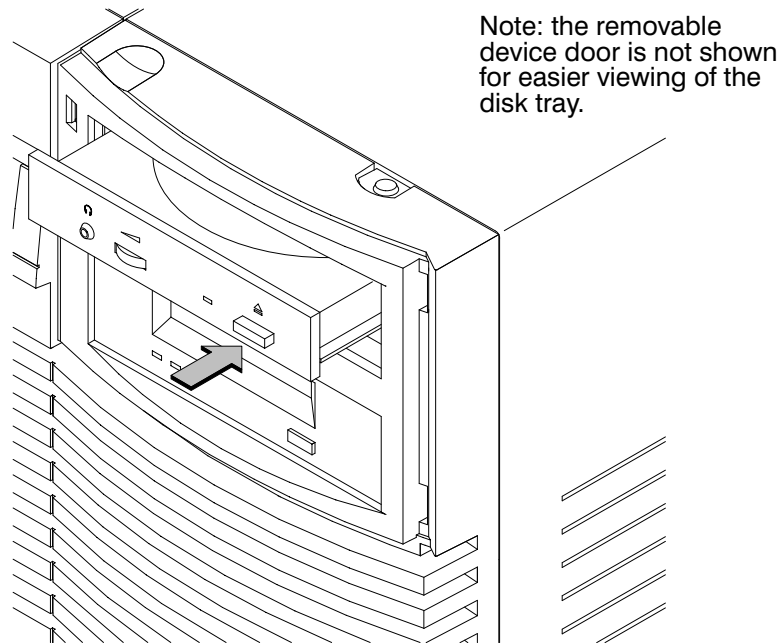

Figure 6–2. CD-ROM Disc Tray Partway Open
1. Press and release the eject button on the CD-ROM drive. The disc tray opens partway, as shown in Figure 6–2.